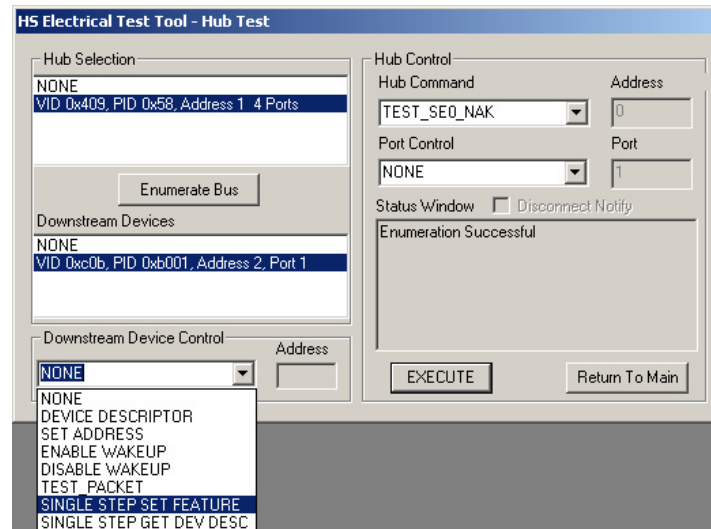

Figure 35. SINGLE STEP SET FEATURE – Downstream Device
7. In the HS Electrical Test Tool – Hub Test menu select SINGLE STEP SET FEATURE from the Downstream Device Control drop down menu and click [EXECUTE] once. (Figure 35)